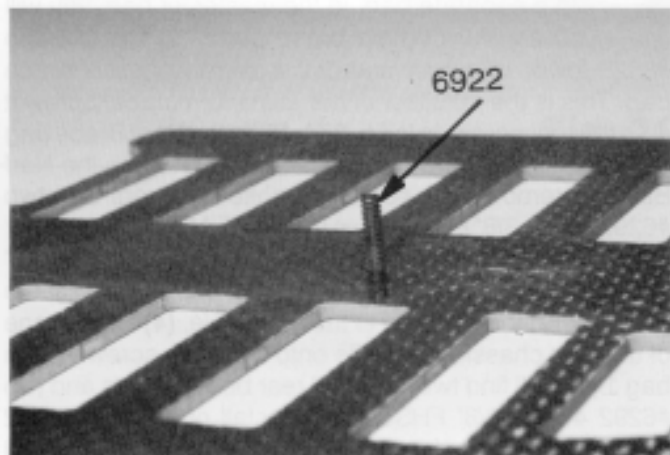

Fig. 25
□ **Figs. 25 & 26** Now we are ready to install the rear end/T-bar assembly onto the chassis. (1) Take the #6922 4-40 x 1/2" FHSScrew from bag 3 and install it into the front T-bar mounting hole from the bottom of the chassis (second hole from the back; fig. 25). (2) Now slide the T-bar front pivot ball over the screw. Take one of the #6937 4-40 blue aluminum locknuts (from bag 3) and tighten it down onto the screw. In the same bag you will find one #6923 4-40 x 3/4" FHSScrew. Install this screw through the chassis and the rear pivot ball as shown in fig. 26.